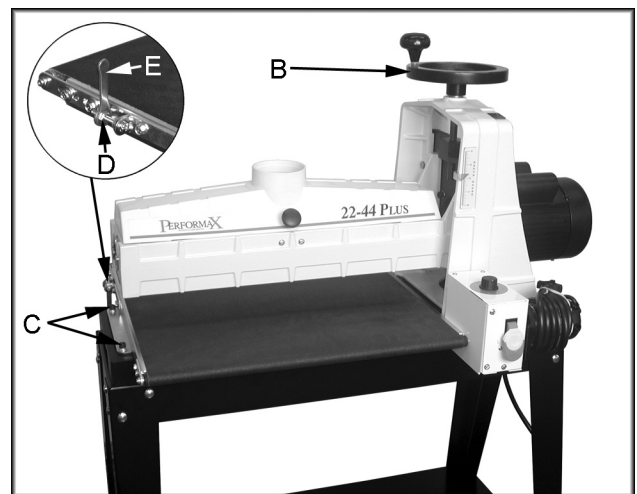

Fig. 2
3. Raise the drum by turning the handwheel (Fig. 2, Item B) clockwise.
5. Secure the conveyor in place with four 5/16"-18 x 3/4" socket head cap screws (Fig. 2, Item C), four 5/16" lock washers and four 5/16" flat washers.
Drum height is controlled by the height adjustment handle (Fig. 2, Item B). Turning the handwheel in a counterclockwise direction lowers the drum.
After the PowerFeed unit has been installed, adjust the hex nuts (Fig. 2, Item D) on both sides of the conveyor to obtain a tight, and equally tensioned, conveyor belt. Use the attached wrenches (Fig. 2, Item E) to adjust the hex nuts.